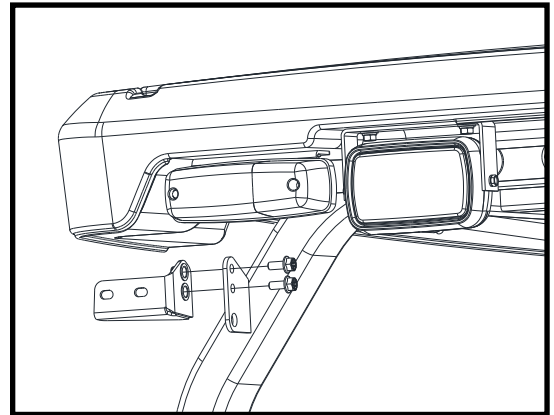

Figure 5.4: Upper Rear Mount
5.4 Install left upper rear mount (see Figure 5.4. Frame and rear panel are hidden). Leave hardware loose.